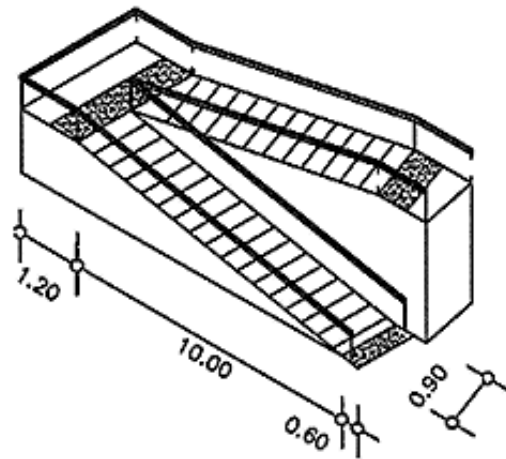

Fig. 3
- (c) Switch back or 180 turn (fig. 3).